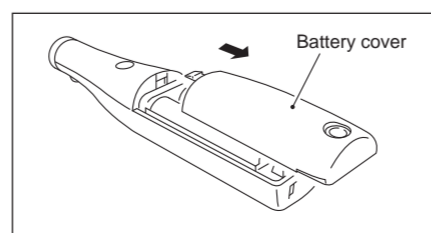

Fig. 16
- Remove the battery cover by sliding it toward the charging terminal. (Fig. 16)